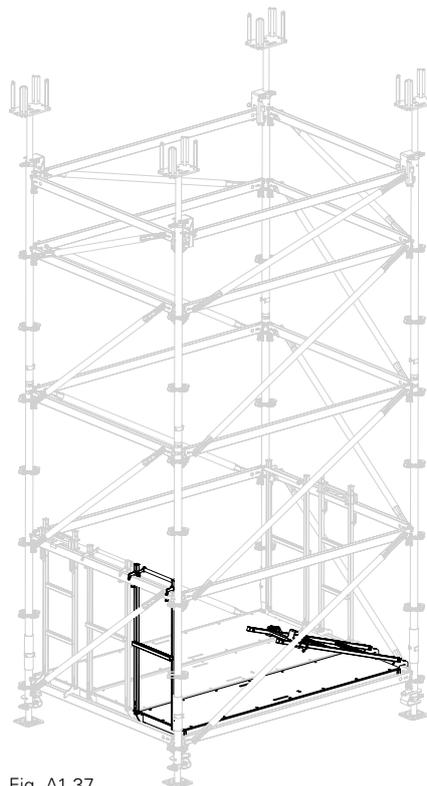

Fig. A1.37
1. 1. Fold deck together. (Fig. A1.37 + A1.38) Exact instructions for use: see Decking variants.